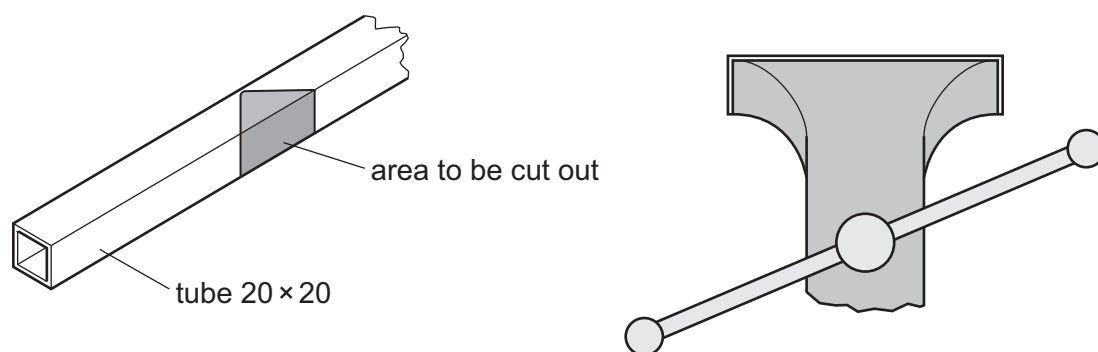

Fig. 7.1
- 7 Fig. 7.1 shows part of a length of mild steel square tube and an engineer's vice. A hacksaw will be used to cut the tube to make a 90° bend.
Draw on Fig. 7.1 to show how the mild steel tube would be held in the engineer's vice while the saw cuts are made.